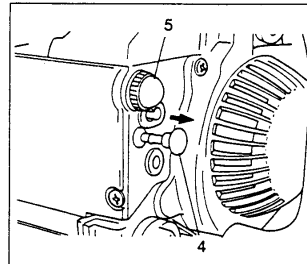

Fig. 2-3
1. Set ignition switch (1) to ON position.
*Push priming bulb (5) several times so that fuel flows through bulb into carburetor. (if so equipped)(Fig. 2-3)
3. Pull choke knob to choked position (4). (Fig. 2-3)